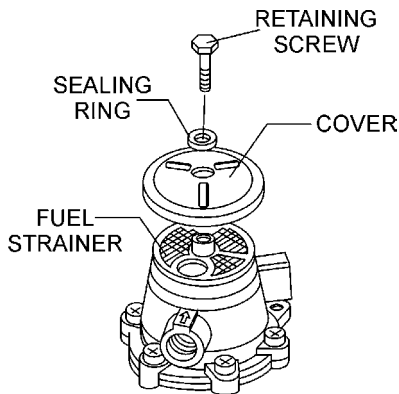

Figure 15. IMSA Fuel Filter
Inspect and clean (replace if necessary) the IMSA fuel filter (Figure 15) every 500 hours. This filter is part of the fuel pump.
1. Close the fuel shut-off valve and loosen the retaining on the IMSA fuel filter (Figure 15).